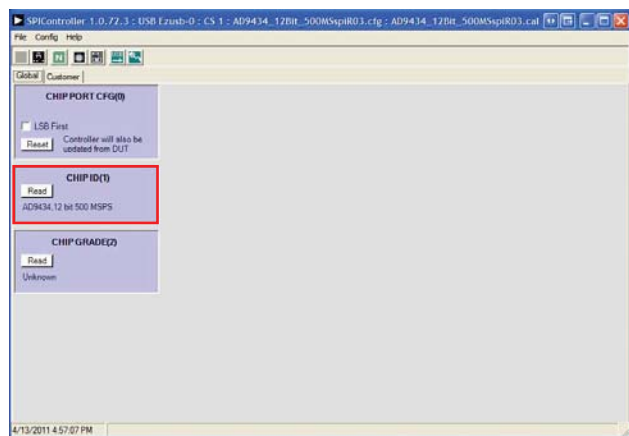

Figure 9. SPI Controller, CHIP ID(1) Box
1. Open the SPI controller software by going to the **Start** menu or by double-clicking the **SPIController** software desktop icon. If prompted for a configuration file, select the appropriate one. If not, check the title bar of the window to determine which configuration is loaded. If necessary, choose **Cfg Open** from the **File** menu and select the appropriate file based on your part type. Note that the **CHIP ID(1)** field should be filled to indicate whether the correct SPI controller configuration file is loaded (see Figure 9).